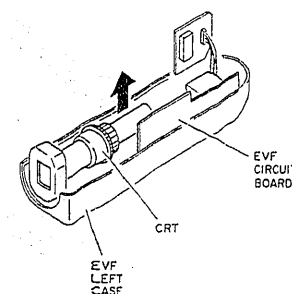

Fig. 2-154
- 1) Remove the EVF circuit board and CRT in the direction of the arrow from the EVF left case. (See Fig. 2-154)
- ##### (2) EVF Circuit Board, CRT